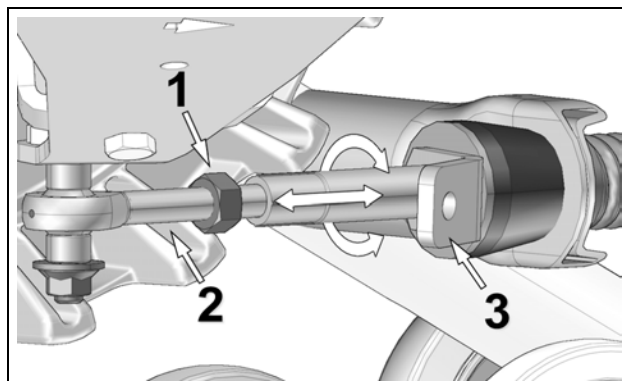

Figure 6
- Loosen jam nut (1). Adjust length of rod end (2) by rotating the steering limiter support plate on (3) the stabilizing arm. Use a 30 mm wrench to rotate support plate and obtain 270 mm above the ground. Refer to Figure 6.